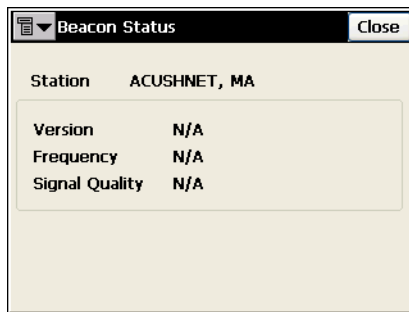

Figure 5-14. Beacon Status
- **Status:** opens the *Beacon Status* screen to view information on beacon link and the receiver beacon board (Figure 5-14).